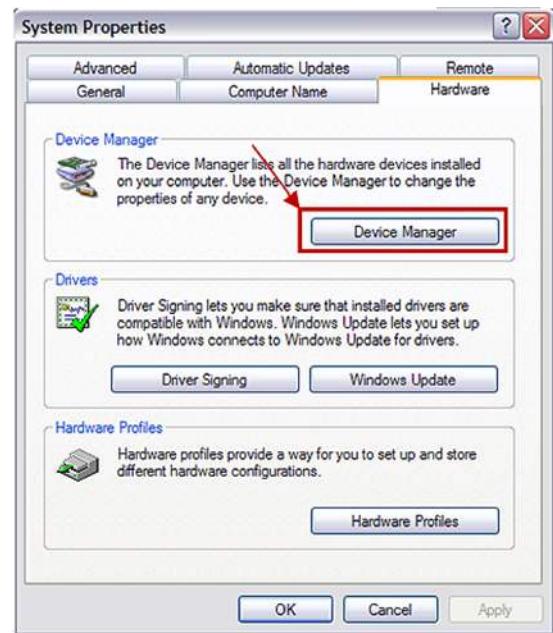

Figure 11. Windows XP/Windows 2000 System Properties
2. Click the **Hardware** tab of the **System Properties** window, as shown in Figure 11.